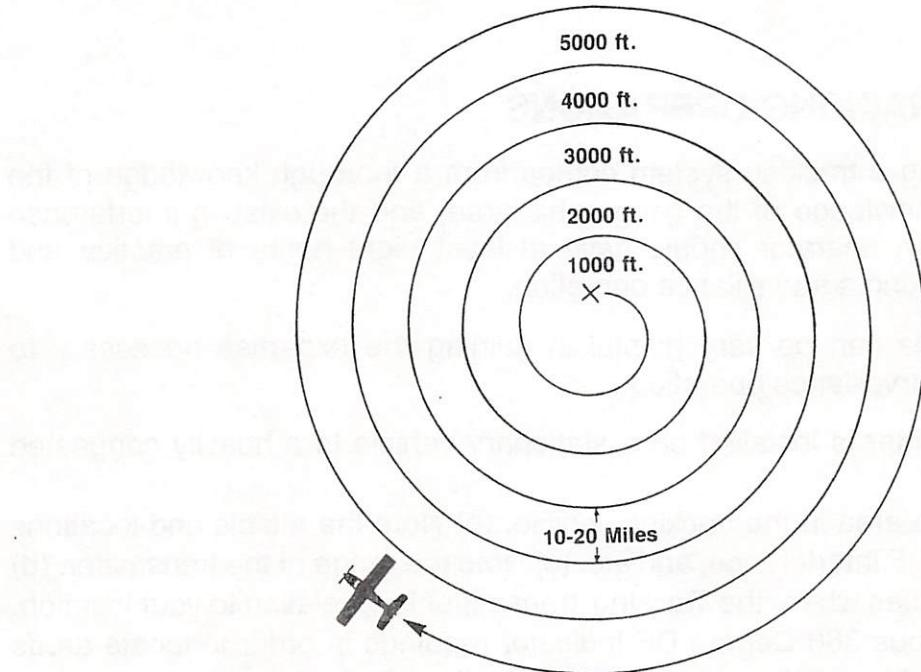

Figure 30. Flight Pattern for Obtaining Initial Tracking Signal.
3. Begin climbing by flying a pattern of large circles, continually gaining and increasing the areas of coverage (see Figure 30). The RANGE will increase at higher altitudes (above 5,000 feet).